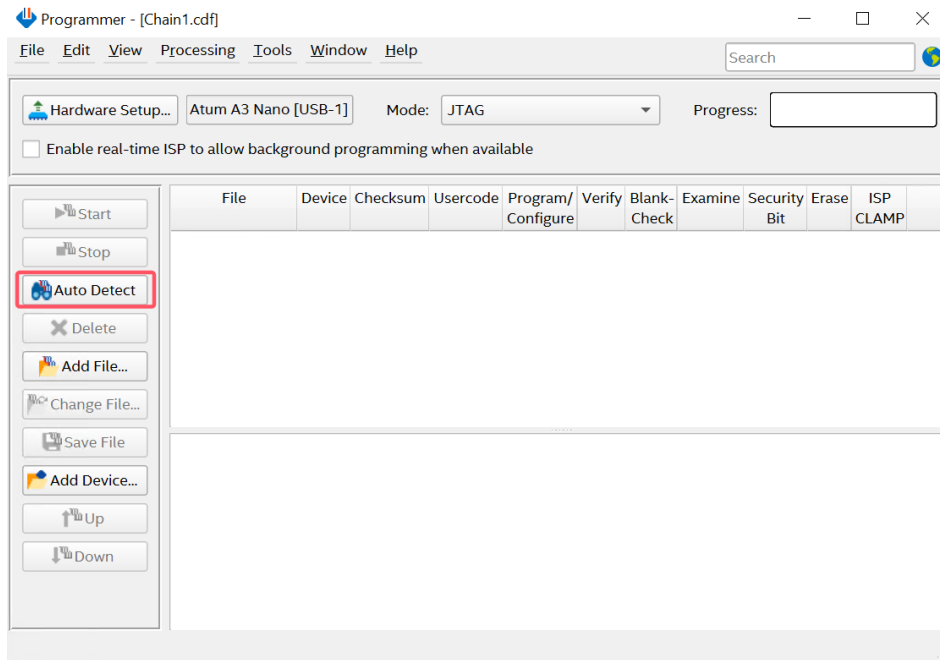

Figure 3-4 Detect FPGA device in JTAG mode
3. Open the Programmer and click “Auto Detect”, as shown in Figure 3-4.